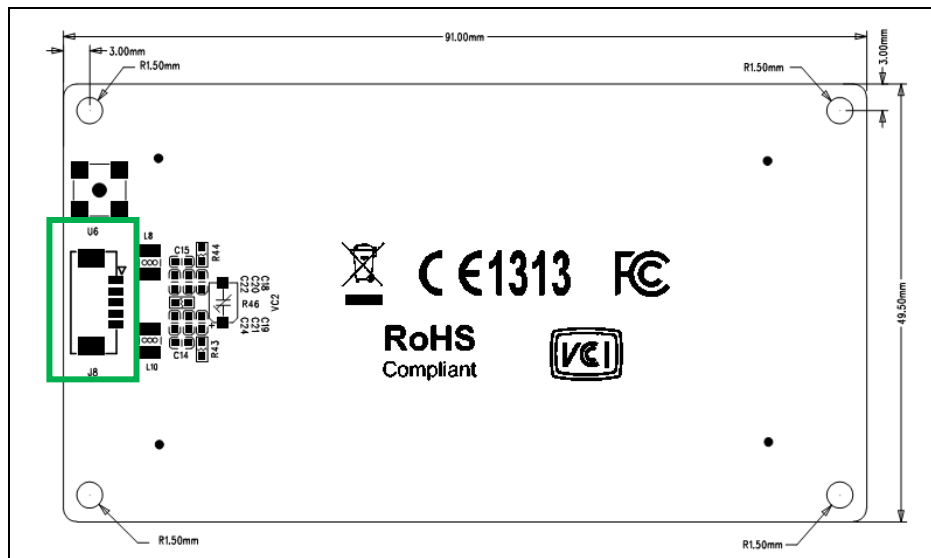

Figure 2: ACM1252U-Y Antenna Board
2. Connect antenna cable to **J8** of the ACM1252U-Y antenna board (see **Figure 2**).